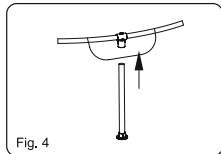

Fig. 4
5. Attach all Footings to the bottom of the Vertical Pool Legs. Then insert the Vertical Pool Legs into the bottom of the Connectors. (Fig.4)